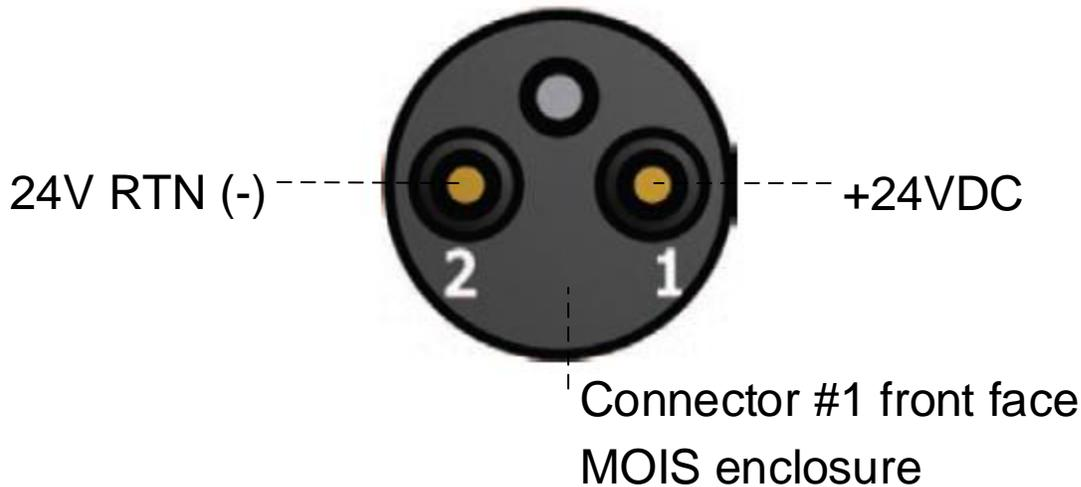

Figure 1 MOIS Power Input Connector
- Unplug the power supply from the 110 VAC outlet, then carefully insert the power cable into Connector #1 (marked on MOIS enclosure and shown in Figure 1). Now, plug the power supply back into the 110 VAC outlet